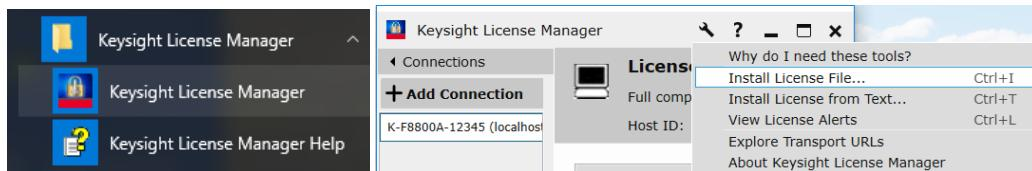

Figure 230 Importing Keysight License Manager license
- 2) Keysight Signal Studio hardware playback license. This license depends on the signal technology (LTE, 5G, WiFi, etc.) used when generating the waveform file in Keysight Signal Studio (N76xxEMBC). This license is installed into Keysight License Manager application, which can be opened from operating system Start - menu, as shown in Figure 230.